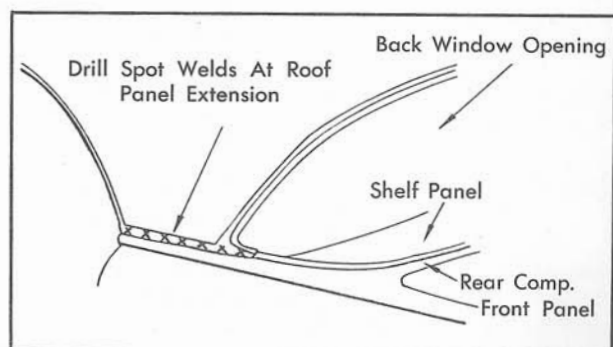

Fig. 17-71 Removal of Roof Panel at Rear Quarter
b. Lower portion of roof panel extensions, Fig. 17-71.
8. Attach the lower edge of the roof panel extension to the rear quarter side outer panel, Fig. 17-71, using 6 cross-recess truss head screws 1/2" long. The screws should be spaced evenly in this area to insure proper support of the roof panel.